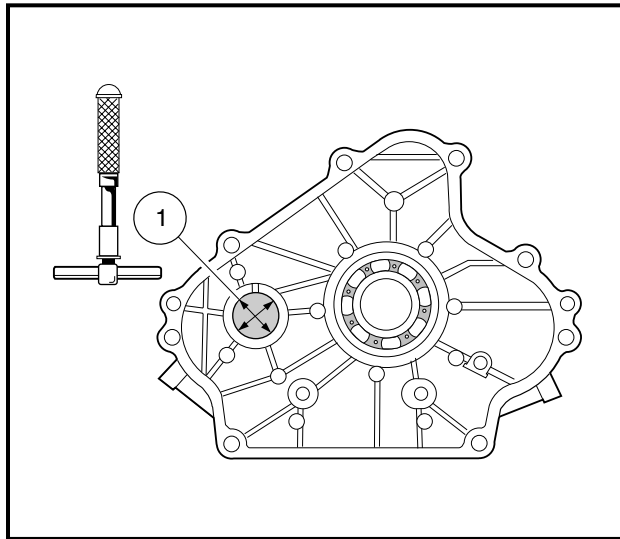

Figure 18-84 Inspect Camshaft Bearing Surface in Crankcase Cover
1. Inspect the camshaft surfaces, one in the crankcase (3) (**Figure 18-83, Page 18-39**) and the other in the crankcase cover (1) (**Figure 18-84, Page 18-40**). Use an inside micrometer or telescoping gauge to measure the inside diameter of each bearing surface. If the inside diameter is greater than 0.9080 inch (23.063 mm), replace the crankcase and/or the crankcase cover.